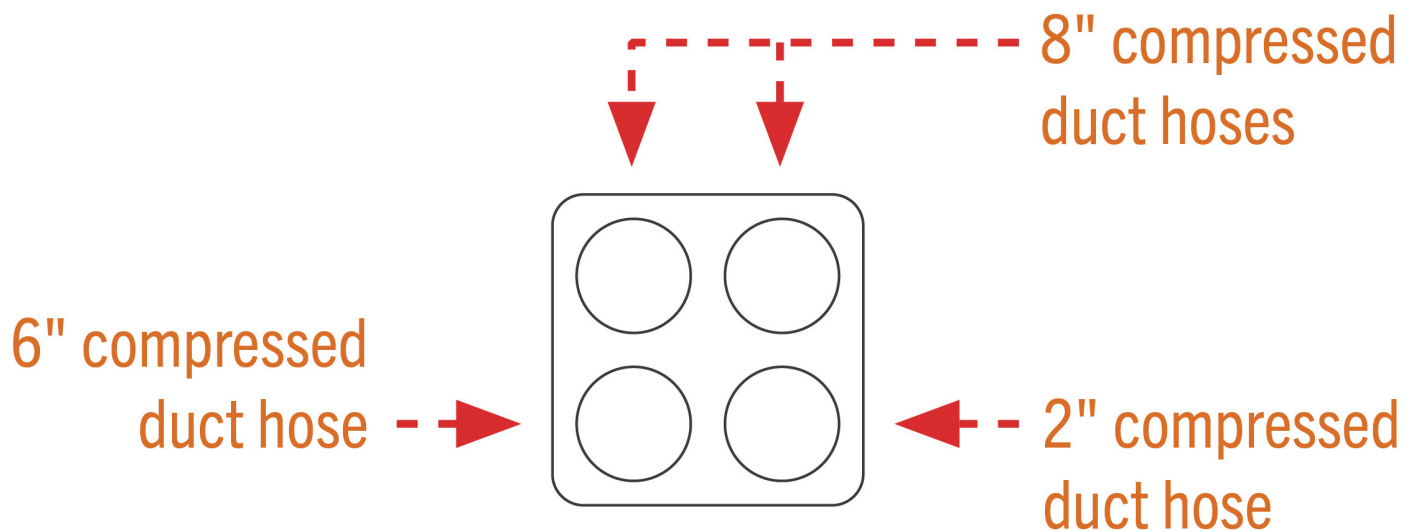

FIGURE 14
48. Connect the 2" compressed duct hose to the lower right side of the heater unit and secure both with zip ties. **FIGURE 14**
49. Connect the 6" compressed duct hose to the lower left side of the heater unit and secure with a zip tie. **FIGURE 14**
50. Raise the lower dash back into place. Connect the two 8" compressed duct hoses to the heater unit and secure using zip ties. **FIGURE 14**